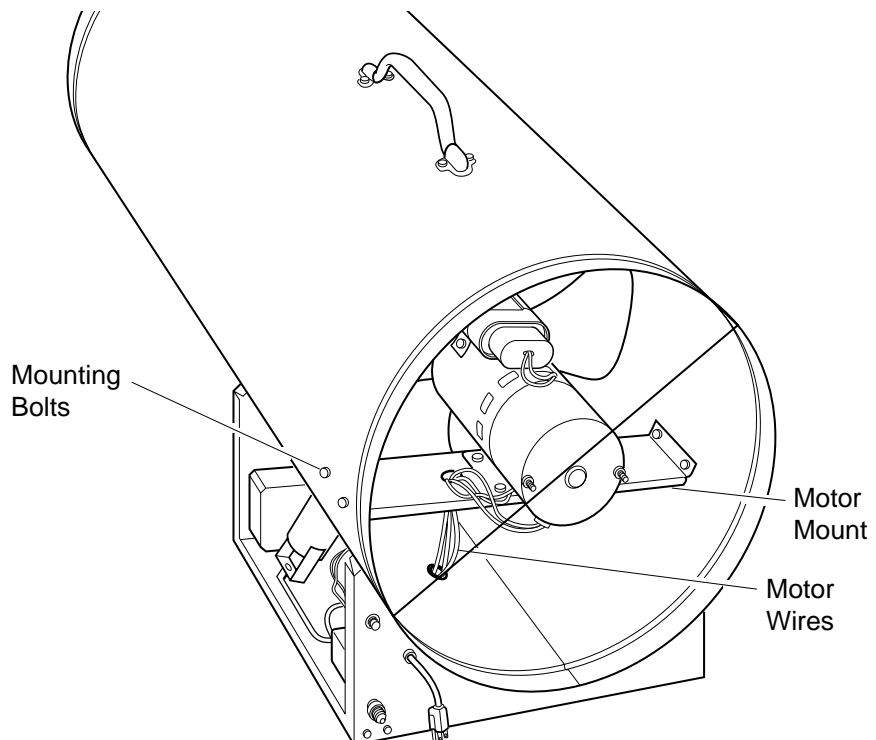

Figure 7 - Location of Fan and Motor
20. Route motor wires through hole in bottom of shell (see Figure 7, page 10).